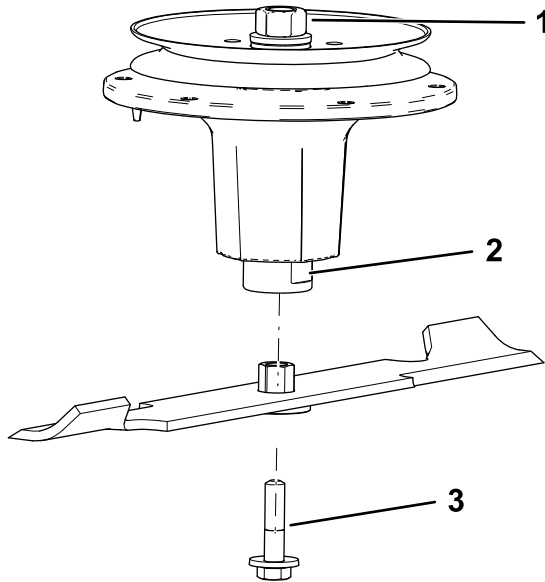

Figure 9
2. Install the bushing/blade assembly into the spindle shaft (Figure 9).